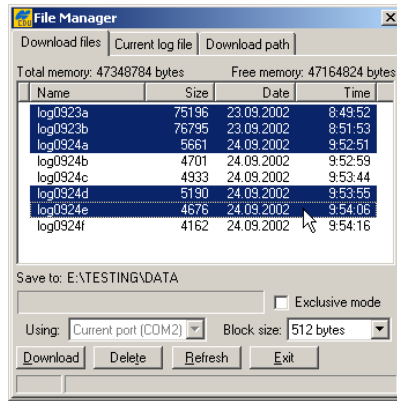

Figure 5-11. Download Files
5. Click the **Download files** tab and select the file(s) to download (Figure 5-11 on page 5-7).